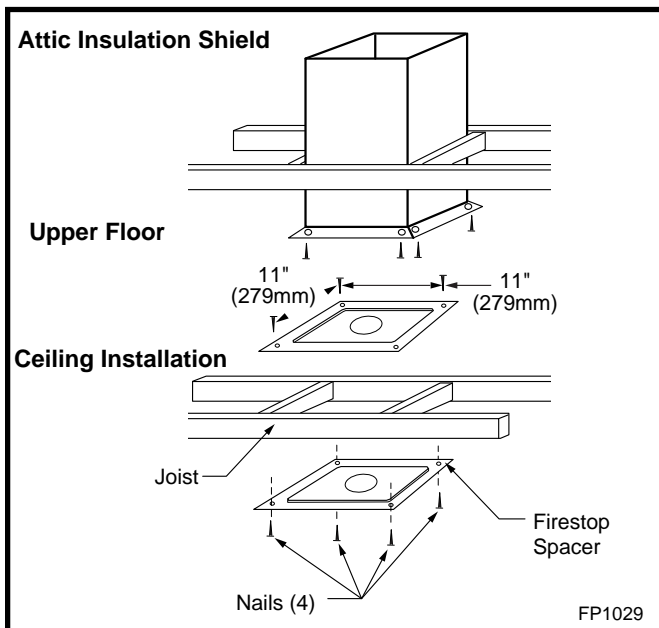

Fig. 37 Place firestop spacer(s) and secure.
6. Place firestop(s) #7DVFS or Attic Insulation Shield #7DVAIS into position and secure. (Fig. 37)